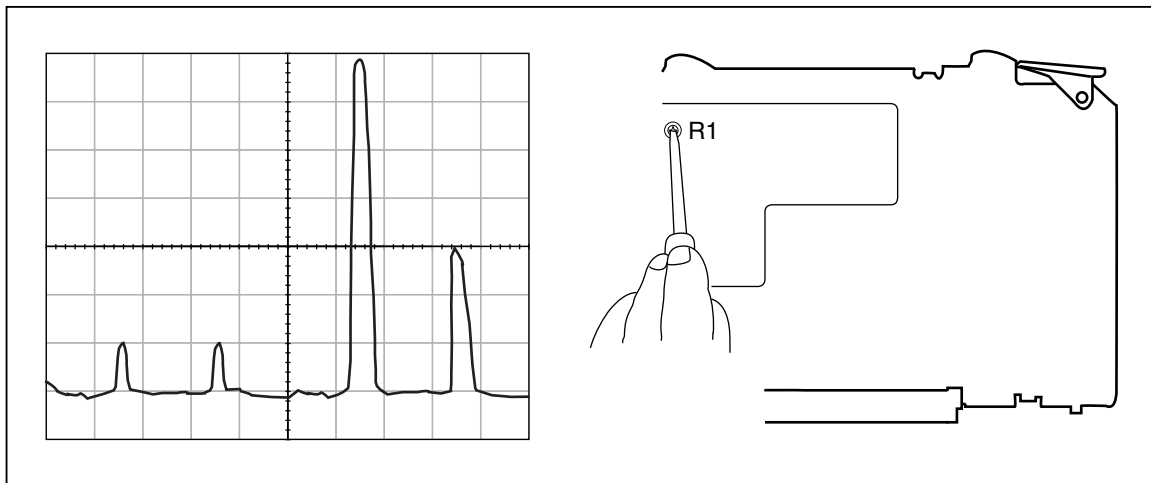

Figure 7-16. Leveled Sine Wave Balance Adjustment
3. Adjust the Spectrum Analyzer so that it shows one peak across its horizontal center line in the display. The far right of the peak is fixed at the far right of the center line, as shown in Figure 7-16.
The spectrum analyzer will show a spur at 153 MHz. See Figure 7-16 to identify the spur.